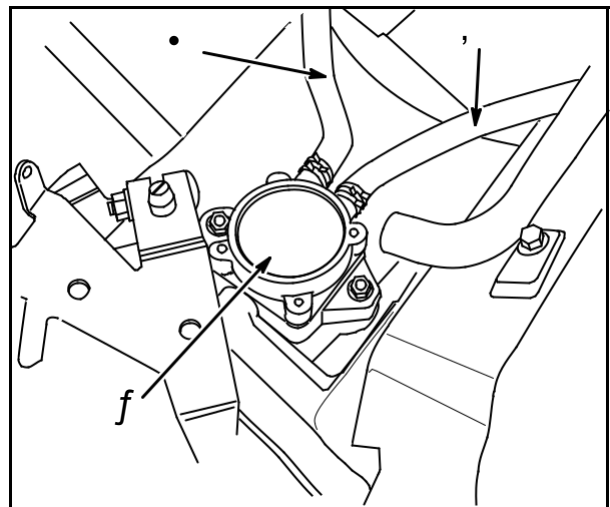

Fig. 12
The fuel pump (3), **Fig. 12**, is actuated by a lobe on the camshaft. Inspect the fuel hose (2) from the fuel tank to the pump and the hose from the pump to the carburetor (1). Replace fuel hoses if stiff or brittle.